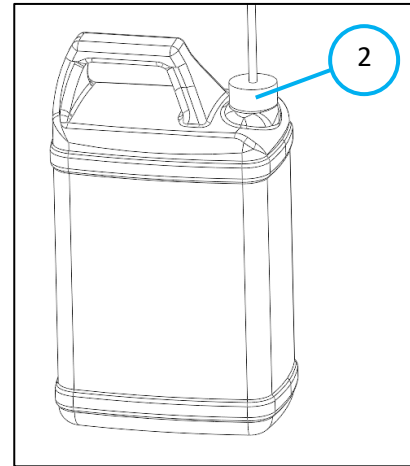

Fig. 2
2. Detach the chemical bottle connecting hose by unscrewing cap (Fig. 2 - 2).